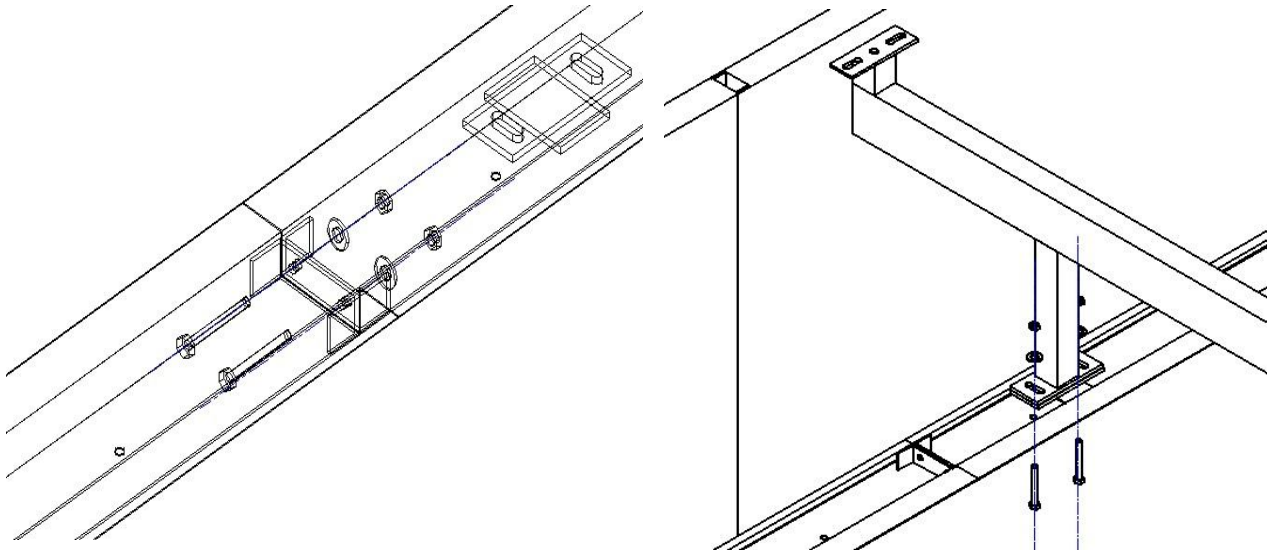

Fig. 2.11
2. Installate the top sealed board and cotton slot shown in Fig.2.11